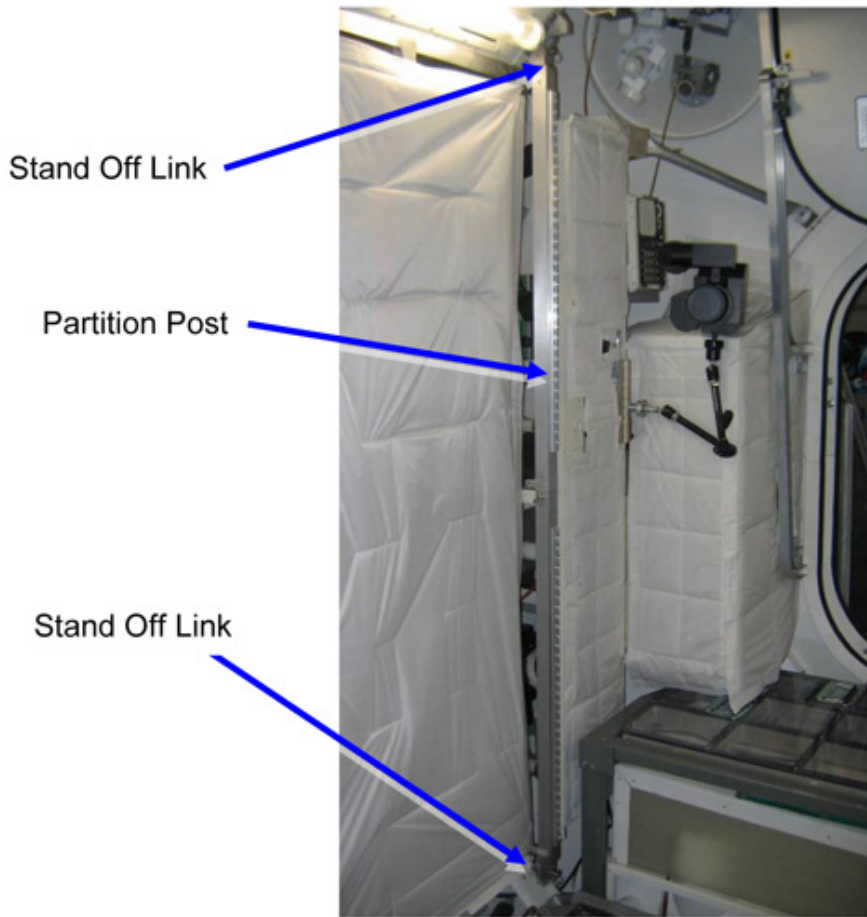

Figure 2-3 Partition Post installed at rack bay A1 (training Mock Up)
2. The Partition Post is installed on two opposite rack bay stand off links. Refer to Figure2-3.
Refer to Figures 2-3 and 2-4.